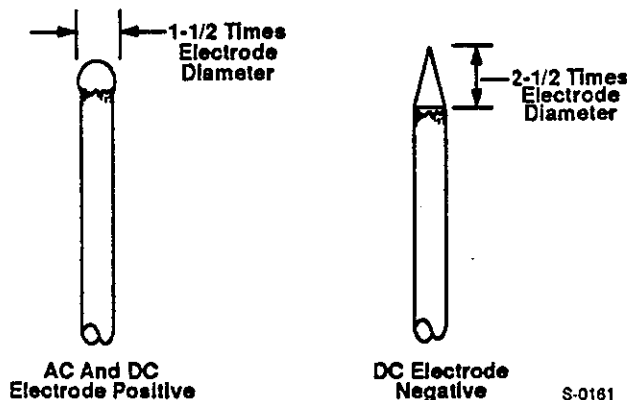

Figure 7-3. Properly Prepared Tungsten Electrodes
7-4. TUNGSTEN ELECTRODE (Table 7-1, Figure 7-3 And Figure 7-4)
A. For AC or DC Electrode Positive Welding (Figure 7-3)
B. For DC Electrode Negative Welding (Figure 7-3 And Figure 7-4)